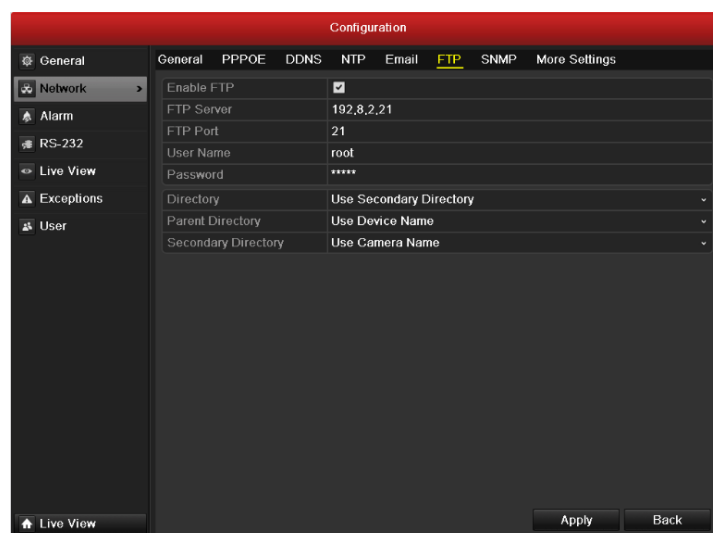

Figure 9.10 Configure FTP Settings
2. Select the **FTP** tab to enter the FTP Settings interface, as shown in Figure 9.10.